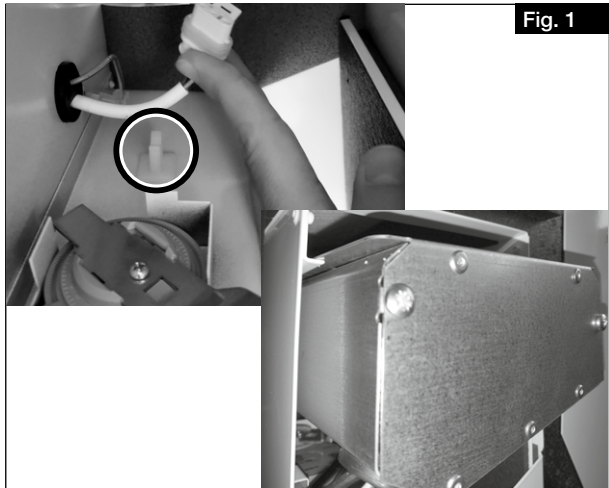
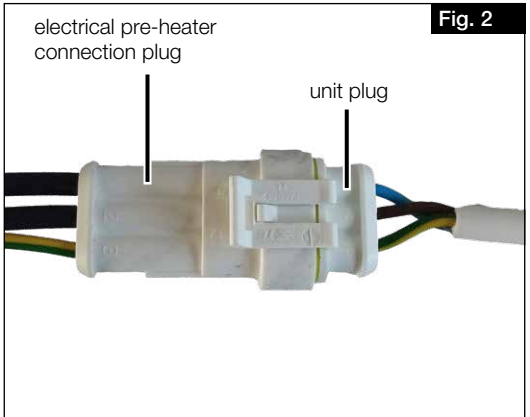

Fig. 1
Fig. 2
1. Remove the electrical pre-heater connection plug from the clip upwards (see Fig. 1).
2. Place electrical pre-heater into the guide rail and insert into the shaft (see Fig. 1).
- ① **Ensure that the electrical pre-heater connection cable is located towards the centre of the unit and not towards the outside of the ventilation unit.**
3. Clip the electrical pre-heater connection plug to the unit plug (see Fig. 2).
3. Place electrical pre-heater into the guide rail (see Fig. 1).
5. Clip the electrical pre-heater connection plug to the unit plug (see Fig. 2).
6. Place the heat exchanger ❶ on the guide rail and push up to the stop.